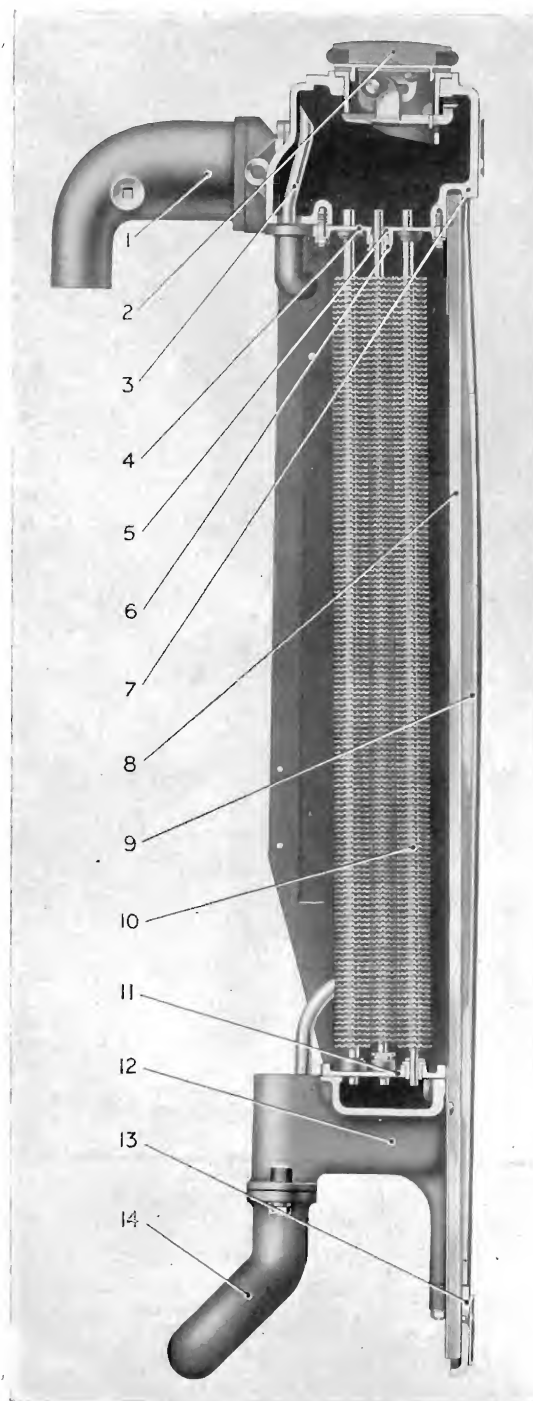

Fig. 1.
On passenger machines the radiator is supported on the dumb irons by two feet formed on the radiator side standards, as shown in Fig. 1. The feet are mounted between rubber support blocks and located by a ferrule, the whole being secured by long bolts pulled down on large plated washers. The radiator is supported at the top by a tie-bar secured to the bulkhead.
To remove the radiator, draw off the starting handle, detach the flexible water connections and uncouple the tie-rod. Take off the front cover-plate (10), Fig. 1, remove the split-pins (9) and nuts (8) and pull out the bolts (2) upwards. The radiator can now be lifted forward and clear.